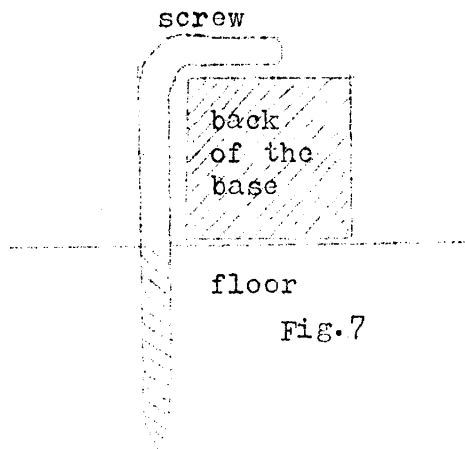

Fig. 7
2). The warp is made with a cross at each end. Then the reel is somehow fixed to the floor or otherwise attached, so that it cannot move. The simplest way is to take two 4" wood screws, cut off the heads and bend the ends (fig.7), then to select a place for the reel, directly in front of the loom and as far as possible, and drive the screws in the floor, so that they will hold the back beam of the base. The holes in the floor should be drilled first ( $\frac{3}{16}$  drill for a  $\frac{1}{4}$ " screw) - then they hardly show at all. The screws are removed by turning the bent end, when the beaming is finished.